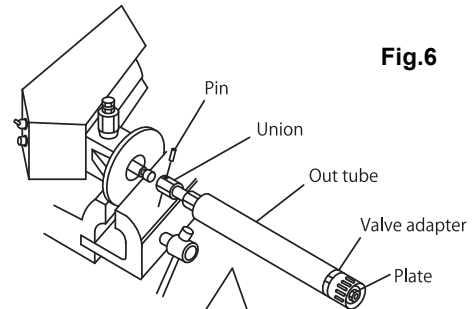

Fig.6
- 4) Secure the pump assembly in a vise. (Fig.6)
- 5) Unscrew valve adapter. Pull the outer tube from the pump with the outer tube extended as far as possible. A roll pin will be exposed. Drive out the roll pin with a punch. Then unscrew the union and separate the pump from the motor. (Fig. 6)
- 6) Pull out the out tube. If only the valve adapter pulled out, unscrew the nut and remove the plate. Then pull out the out tube and screw the suction tube with pipe wrench (set on notched part of the suction tube). Pull out the pin and unscrew the union, and the lower pump can be separated from the motor. (Fig. 6, 7)
- 15) Insert the suction tube from opposite side of valve adapter. Pull out the union from the suction tube and screw it to the connecting rod of the motor side. Adjust the position of pin-hole of both the suction and the union, and insert the pin. (Fig.6)